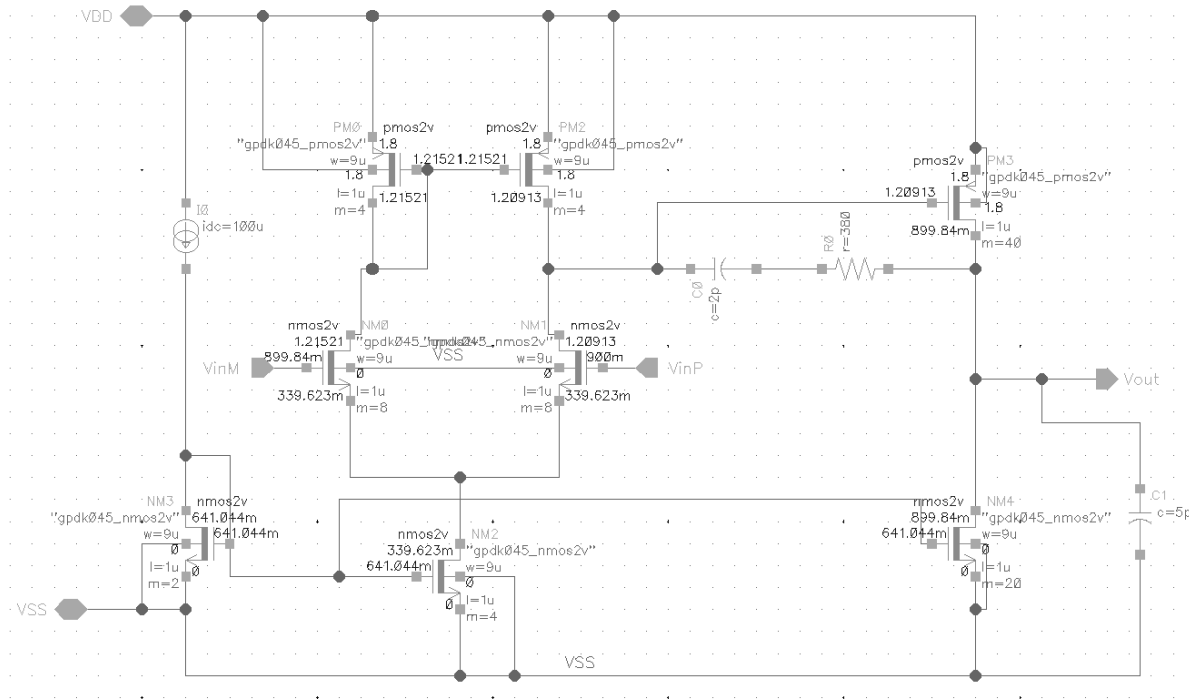
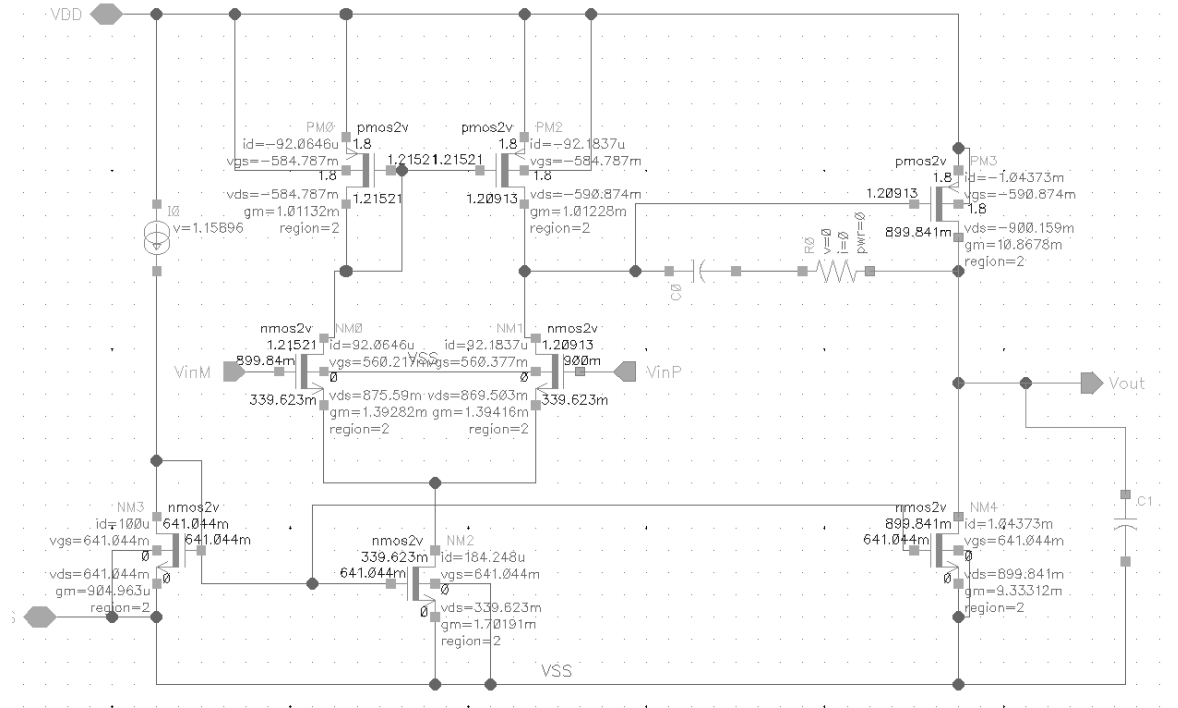

Figure 1: Two stage OPAMP schematic
Figure 2: Two Stage OPAMP DC Operating values.
- a. Figure 2 shows the operating region of the transistors as well as the node voltages. The sizes used in figure 1 and 2 are the same. The size of the signal transistor(NM0) is different than the designed size. This is because the gain and phase margin specs were not meet with designed values. One way to increase the gain and phase margin of the OPAMP is by increasing the signal transistor's size. As well as the compensation RC circuit.